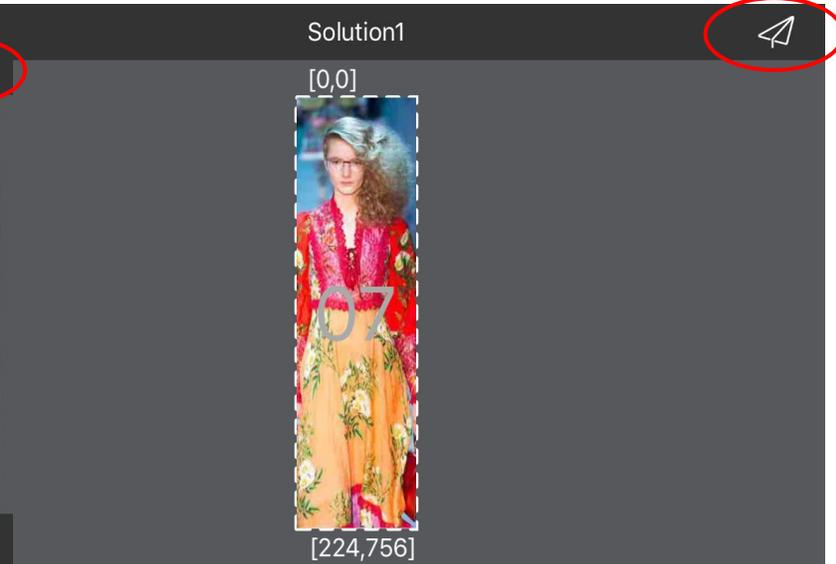

fig 7.19
h. Return to the display window, click  to publish the content, refer to fig 7.19.